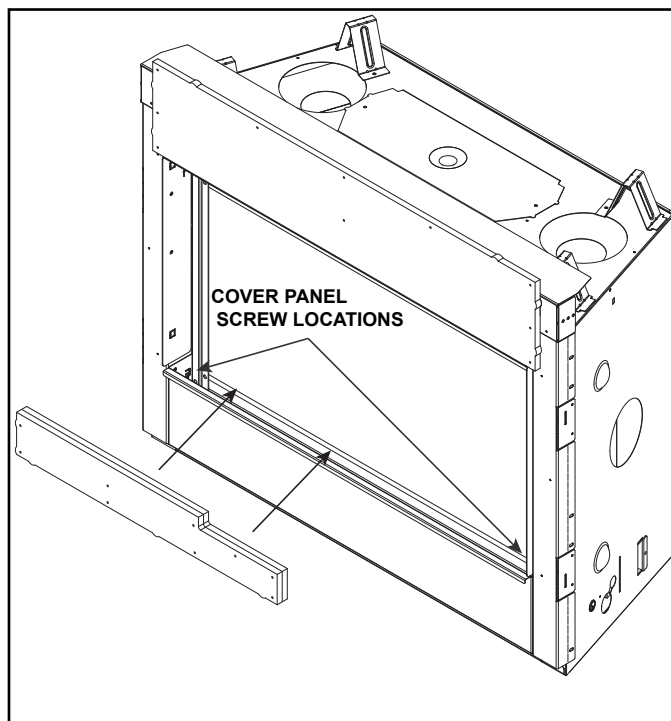
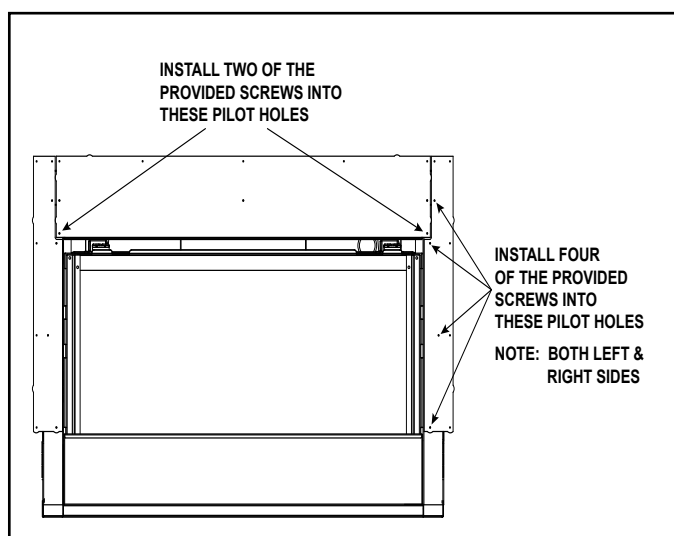

Figure 6.5 Shipping Position - Non-Combustible Sides
Figure 6.6 Installation of the Side Non-Combustible Components
This model ships with the required top, left and right non-combustible board. The top non-combustible board has been pre-installed at the factory with three screws. The left and right side non-combustible boards are shipped inside the appliance. See Figure 6.5.
4. Further secure the top non-combustible board by installing screws into the pilot holes located in the upper left and right corners of the top non-combustible board as shown in Figure 6.6.
5. Install the left and right non-combustible components with four of the provided Phillips screws. See Figure 6.6. After all non-combustible material has been installed, remove the small package of sheet metal screws from the manual bag. Reinstall lower cover panel and ensure it is “hooked” onto the appliance. Use the two screws from the package to fasten the top sides of the cover panel to appliance. The holes on the cover panel should align with the holes in the sides of the appliance. See Figure 6.5.